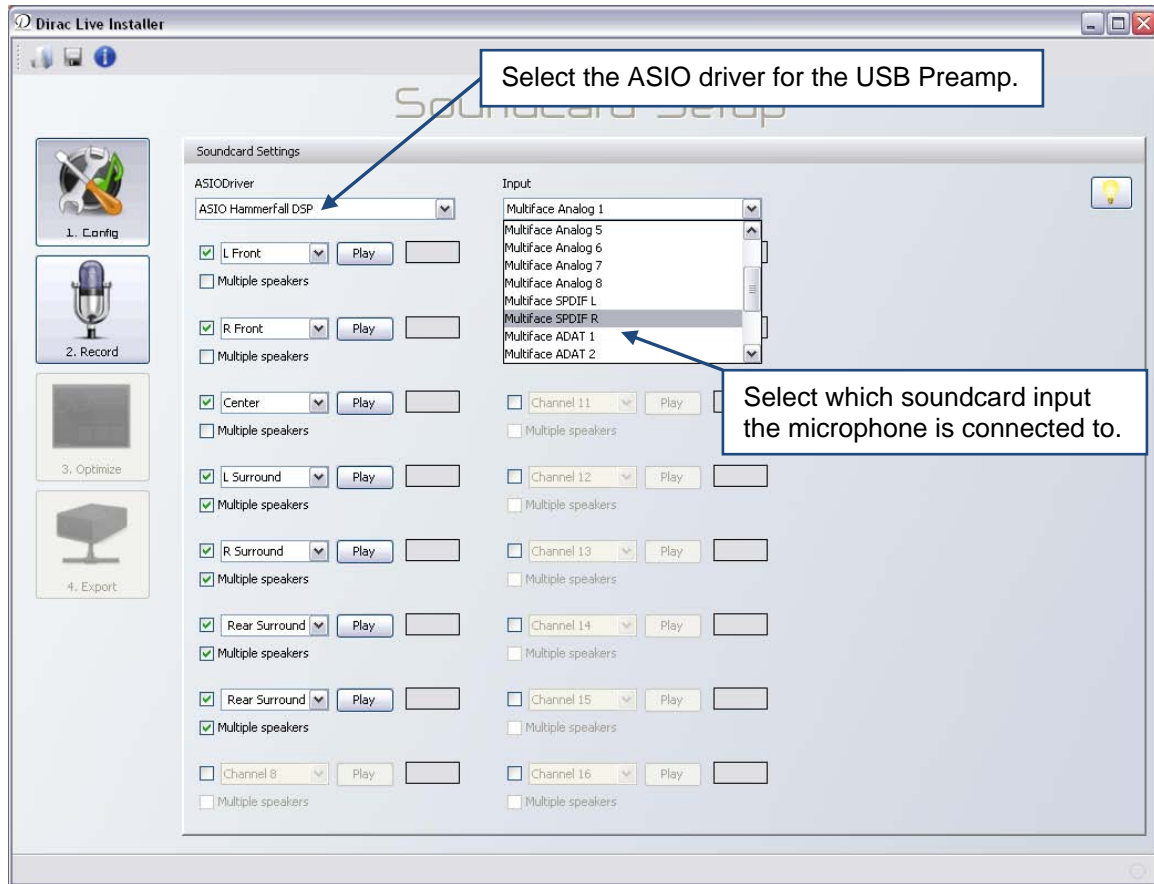

Figure 6. Soundcard Setup Screen
2. Select the soundcard input that the microphone is connected to. See Figure 6.